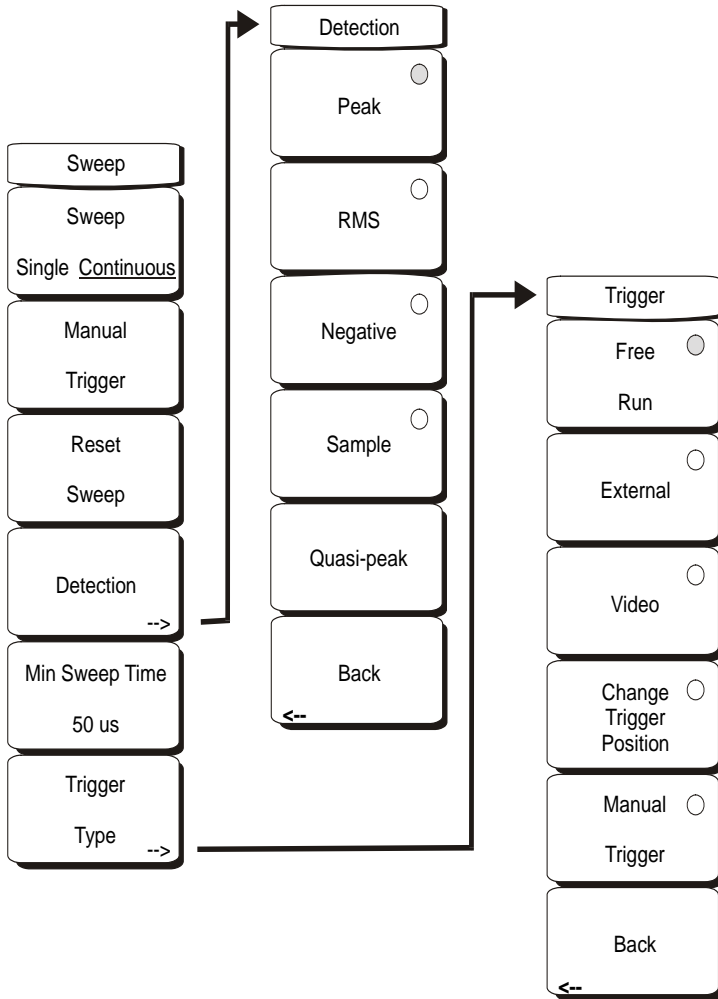

Figure 3-12. Sweep Menu Soft Keys
To access the functions under the Sweep menu, select the **Shift** key, then the **Sweep (3)** key. The Sweep menu soft keys are shown in Figure 3-12.